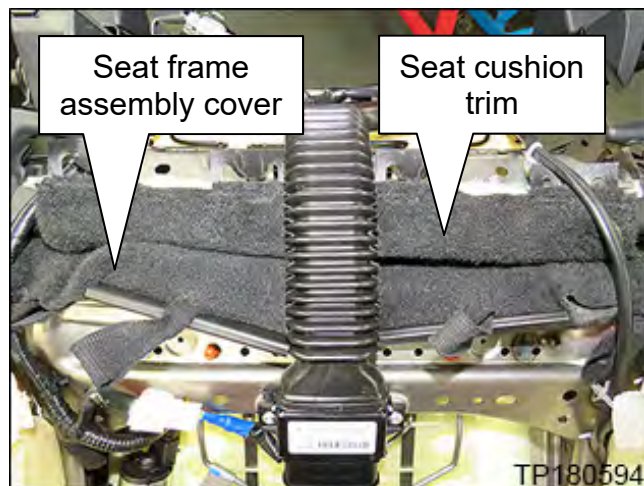

Figure 28
27. Pull the seat frame assembly cover and the seat cushion trim material back through the gap between the seat bottom and the seat back (Figure 28).